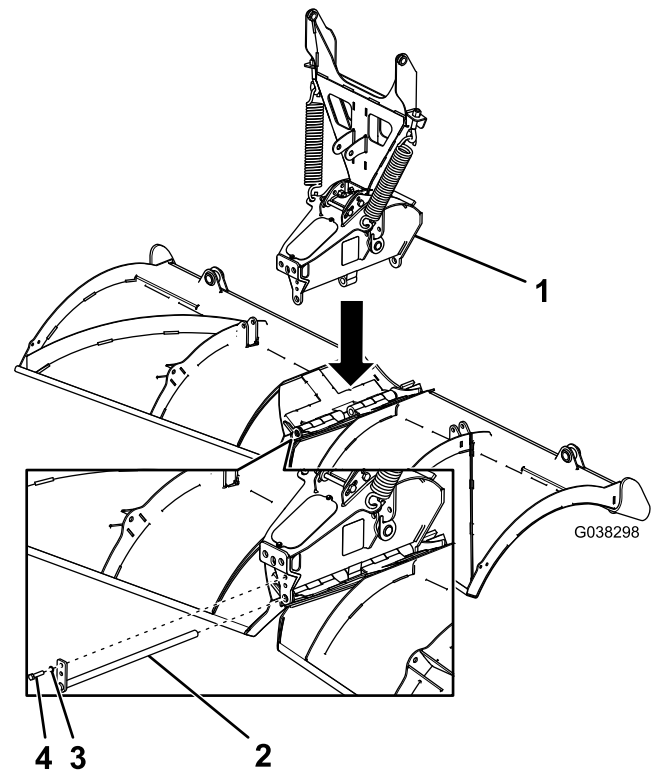

Figure 2
2. Insert the push-frame assembly between the blade hinges and secure all 3 pieces together with the center hinge pin, split lock washer, and hex-head lock bolt with nylon lock patch (Figure 2).